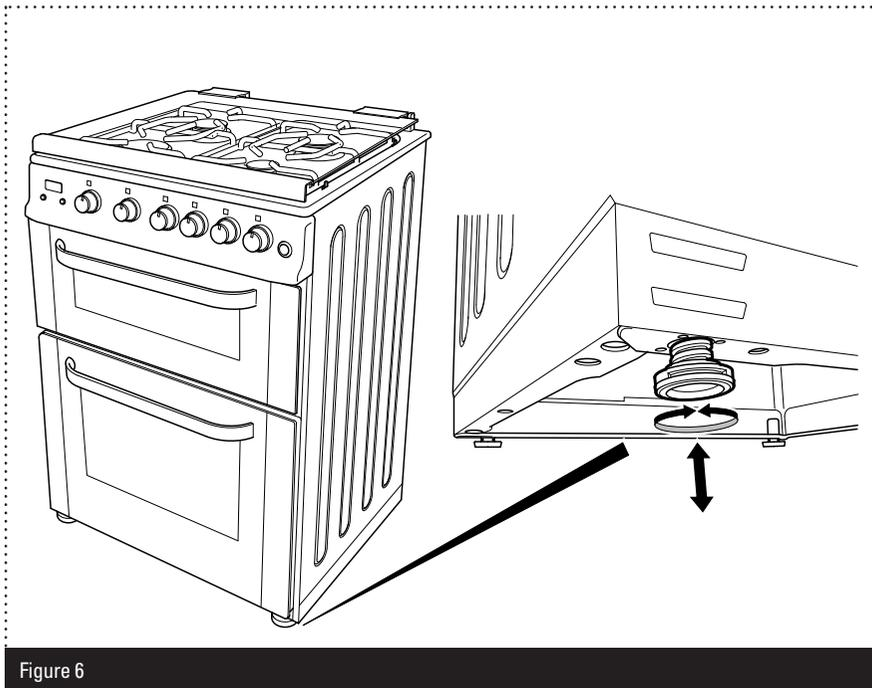

Figure 6
- 1 To increase the height of the Oven, turn the feet anti-clockwise (Figure 6).
- 2 To decrease the height of the Oven, turn the feet clockwise (Figure 6).